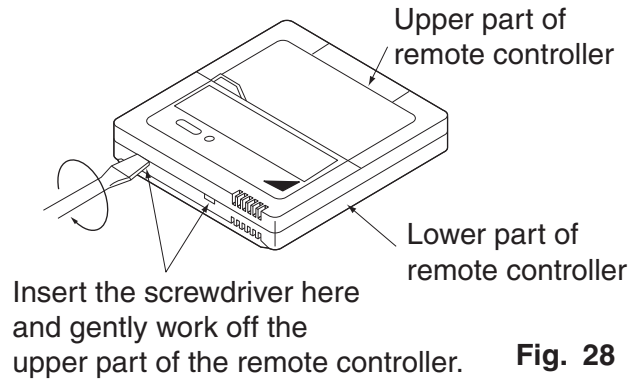

Fig. 28
- (1) Insert a ⊖ screwdriver into the recess between the upper and lower part of remote controller, and working from the 2 positions, pry off the upper part. The remote controller PC board is attached to the upper part of the remote controller. (Refer to Fig. 28)